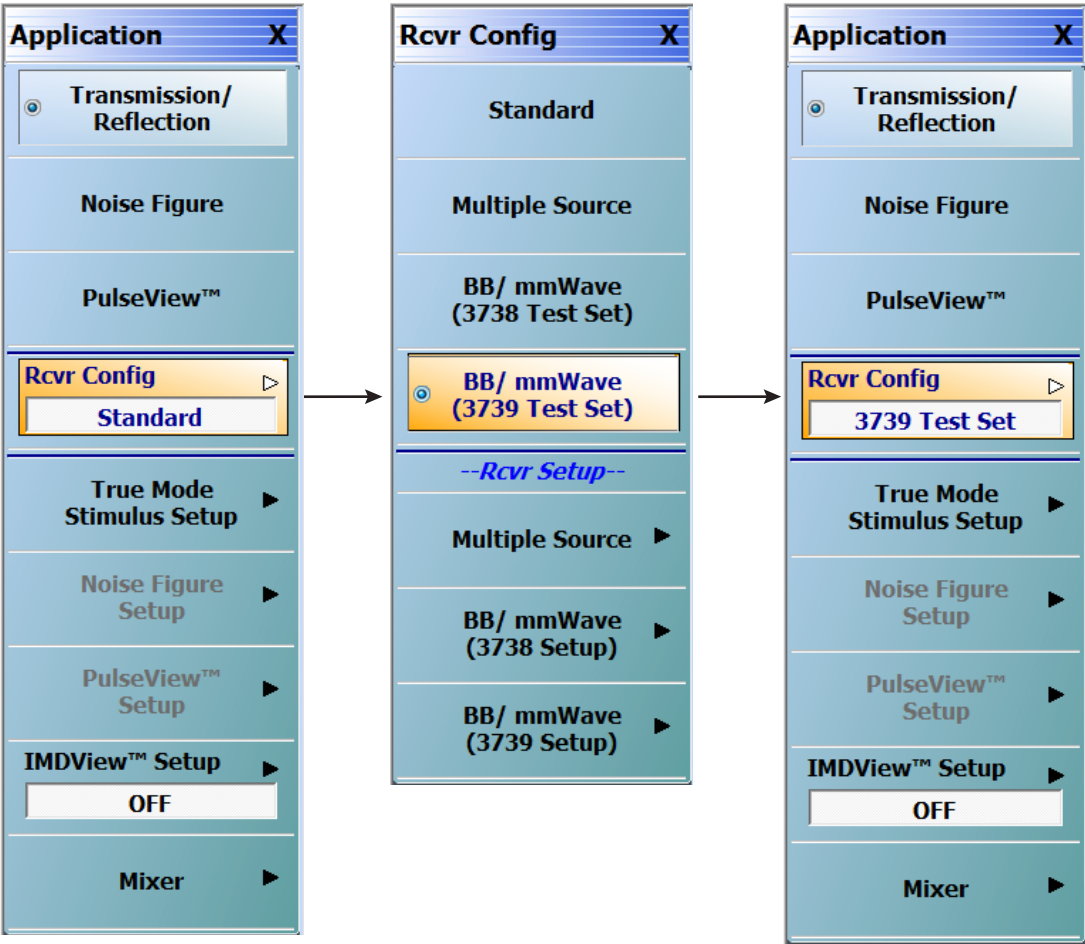

Figure 6-1. APPLICATION Menu – Receiver Configuration to 3739 Test Set
- 3. At the MAIN menu, select Application. The APPLICATION menu appears as shown in Figure 6-1 on page 6-2.